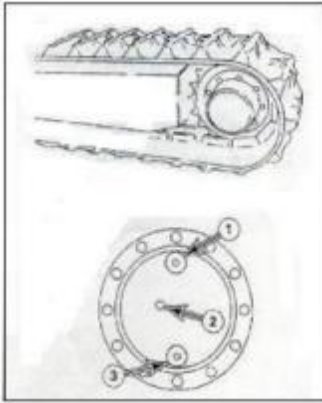

Fig 4-34
2. Turn the crawler until the oil ports ①, ②, ③, (Figure 4-34) are in the position shown in the figure.
3. Remove the screw plug ②, (Figure 4-34), add oil until the oil level reaches the oil port ②, and install the screw plug ②.